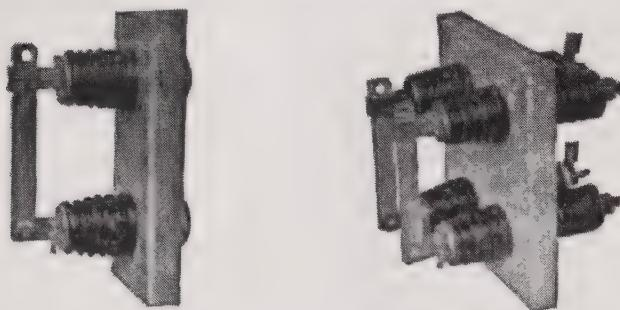

Fig. 62. Low Voltage Arrester Disconnecting Switches. Single for Railroad work. Double for Electric Lighting.
*Answer.* Disconnecting switches as shown in Figs. 62 and 63 are installed in places where some other switch will not serve to disconnect the arresters.